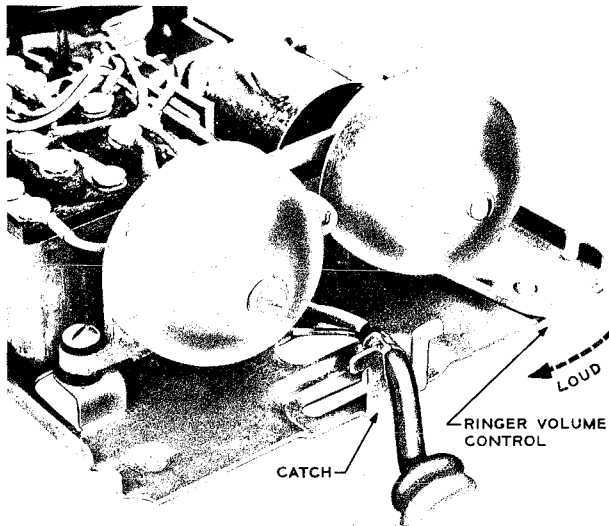

Fig. 22 — 554-Type Set, Ringer Volume-Control Lever
(2) The ringer volume-control lever in the 554-type telephone sets is riveted at one end to the base of the set (see Fig. 22). In the 500-type telephone set, the ringer volume-control assembly is part of the ringer.
(3) Cord leads should be dressed to avoid interference with moving parts and ringer gongs. On the 500-type set, anchor the mounting cord beneath the stay hook in the right rear corner of the base to prevent interference with the ringer gong.